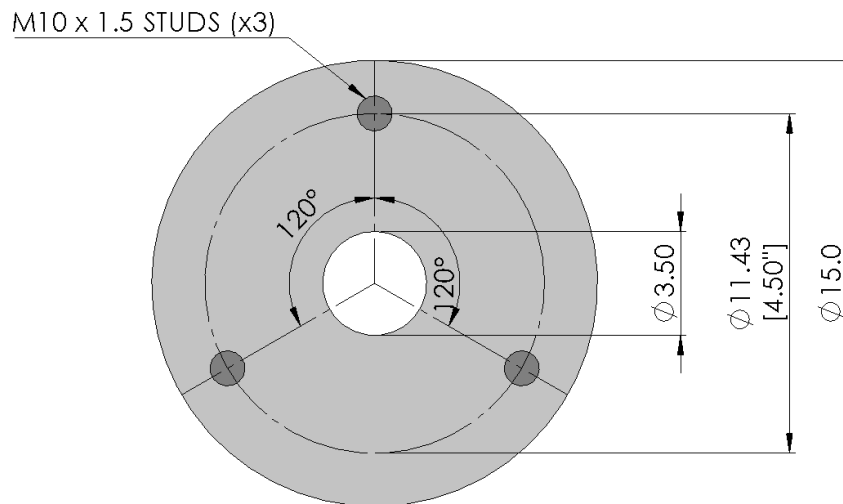

Figure 3. Base flange dimensions for turbine attachment to tunnel (dimensions in cm)
- The turbine base plate must be constructed of material no thicker than 16.1 mm. It should be designed and constructed with adequate tolerances to smoothly fit over three studs where it will be secured to the tunnel base flange with nuts. Figure 3 shows the bolt pattern and sizing of this flange.
- The tunnel base flange incorporates a turntable to generate yawed flow. Figure 3 details the dimension for the hole in this base flange to allow cables and connectors to pass through.